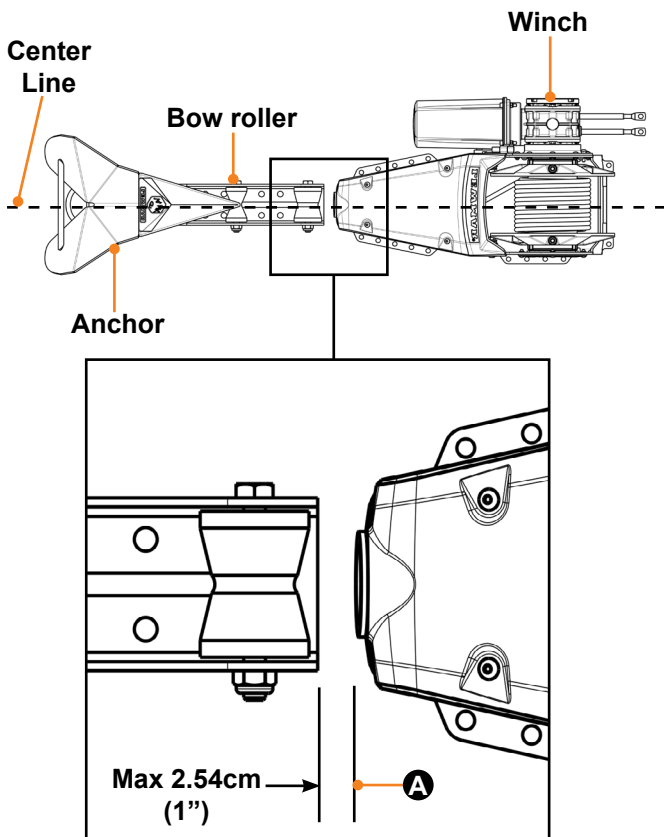

Fig.1
3. Dry fit the winch and bow roller to the decking or mounting plate and mark the position of each. The bow roller should be installed forward of the winch with the aft end of the bow roller spaced a maximum of 2.54cm (1") (Fig. 1A) from the fore end of the winch. A larger gap will cause the chain and warp to become slack and snag. The assemblies must be in line and parallel with each other. Make sure the center line of the anchor shank or bow roller aligns with the center line of the winch housing and bow roller (Fig. 1).